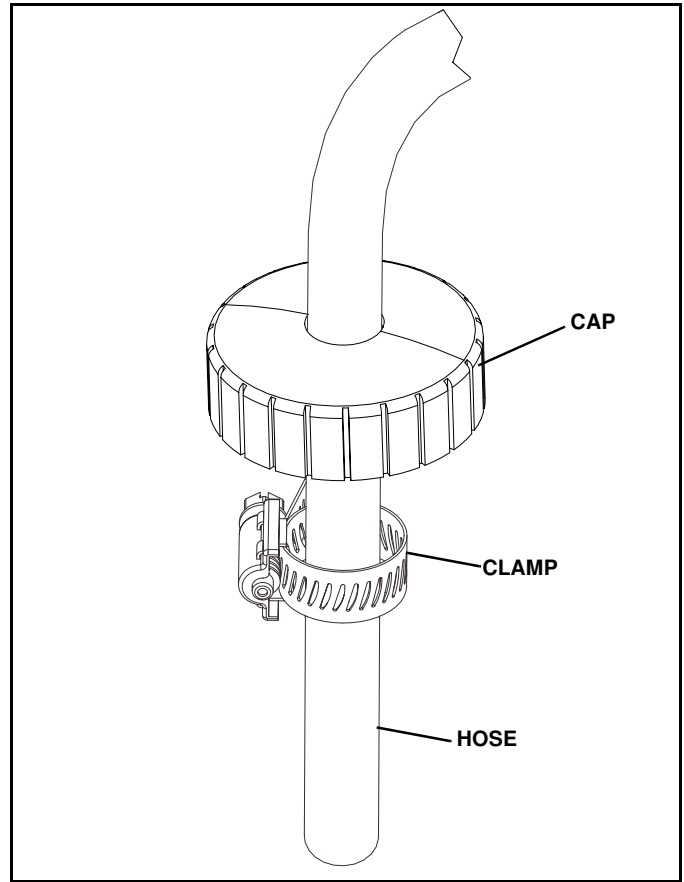

Figure 1-4
5. Insert one end of the remaining length of hose through the filling cap. (See Figure 1-4)
6. On the threaded side of the cap, fasten a hose clamp. Tighten only enough so it does not slide off the hose. (See Figure 1-4) This will prevent the hose from sliding out from the tank during filling.